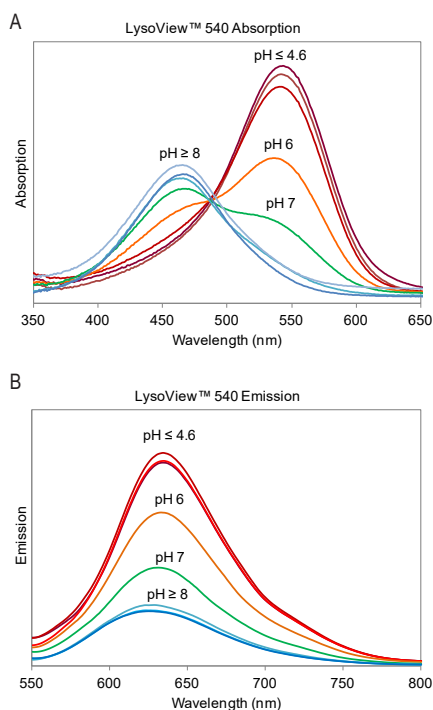

Figure 2. LysoView™ 540 normalized absorption (A) and emission (B) at varying pH.
- LysoView™ 540: Orange dye for the Cy®3 channel with pH-dependent fluorescence (Fig. 2). This specific dye has limited photostability and may not be suitable for all microscopy applications.